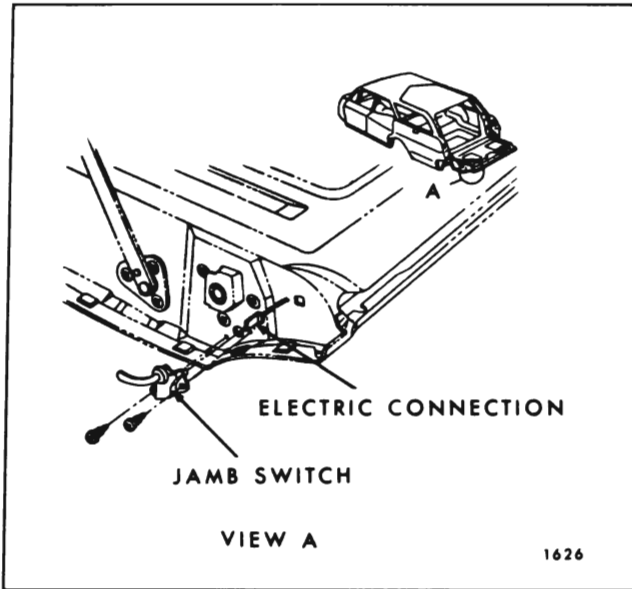

Fig. 9-15—Tail Gate Jamb Switch
1. Remove screws securing jamb switch to tail gate, disconnect attached wire and remove switch. (See Fig. 9-15).
NOTE: Figure 9-15 illustrates the jamb switch on a "B" Body but is indicative of all styles.